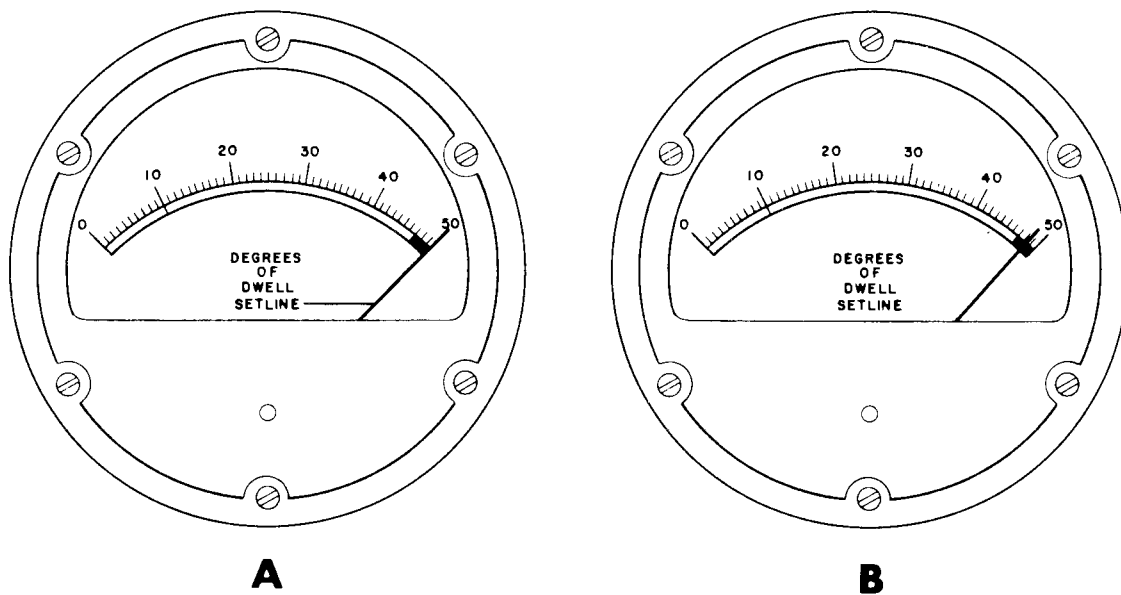

Figure 4. Dwell Meter Resistance Readings
- c. Set tach-dwell selector switch to CAL position and adjust calibrator until dwell meter pointer reads on the Set Line, See Figure 4 A.
- e. With distributor points closed, dwell meter pointer should read within black bar at right end of distributor resistance scale. See Figure 4 B.
- (1) If the dwell meter pointer reads in the white area to the left of the black bar, excessive resistance is present in the distributor primary circuit.
- (2) To locate the cause of the excessive resistance, move the clip (red) step-by-step through the distributor's electrical circuit from the primary terminal to the ground return. Where the resistance reading on the dwell meter changes considerably from one point to another, correct the high resistance condition.